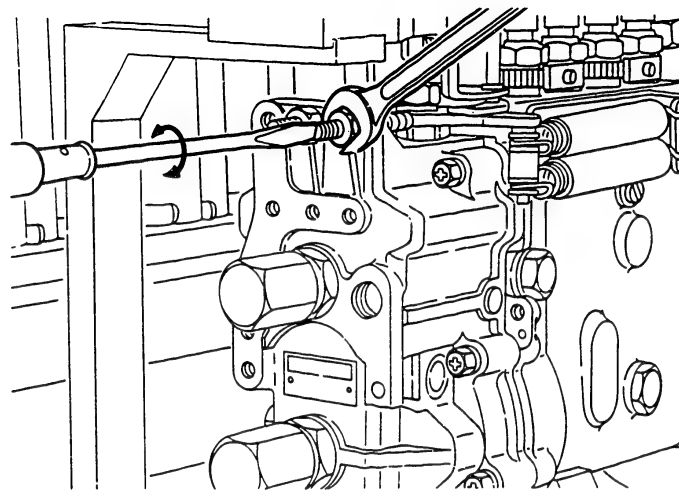

Fig. 158 Adjusting the maximum-speed setting bolt
2. With the pump speed maintained at N_g rpm, adjust the maximum-speed setting bolt so that the control rack begins moving from R_{f3} mm in the fuel decrease direction. Then, lock the bolt with the nut. (Figs 158 and 159)